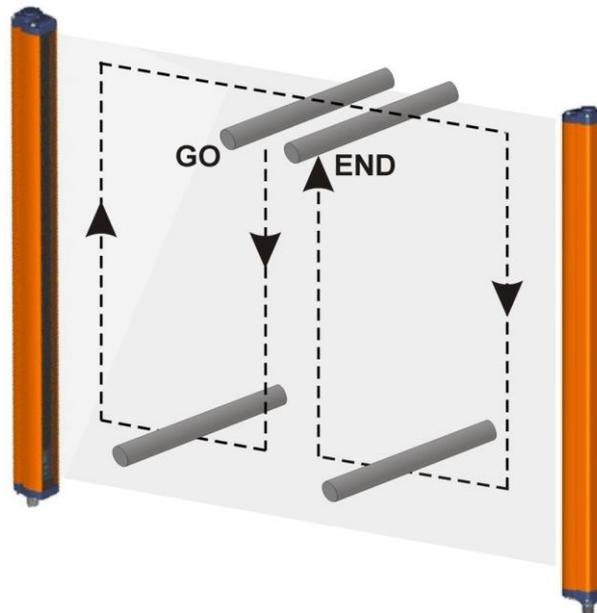

Fig 19 - Path of the test piece
- ESPE remains blocked (➤ lit RED) intercepting the beams along the protected area using the specific test piece, following the scheme in **Fig 19 - page 27**.